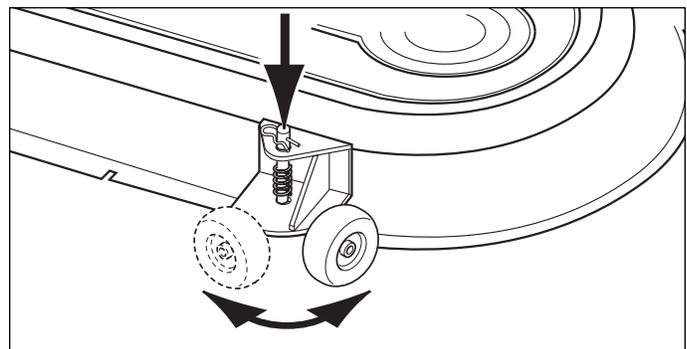

Figure 4. Pivoting Gauge Wheels - Select Models
1. Park the tractor, fully lower the attachment lift, turn off the PTO, turn off the engine, remove the key, and engage the parking brake. If equipped, pivot the gauge wheels into sliding position (see Figure 4).
6. If equipped, raise the attachment lift and rotate the front gauge wheels (Figure 4) into cutting position.